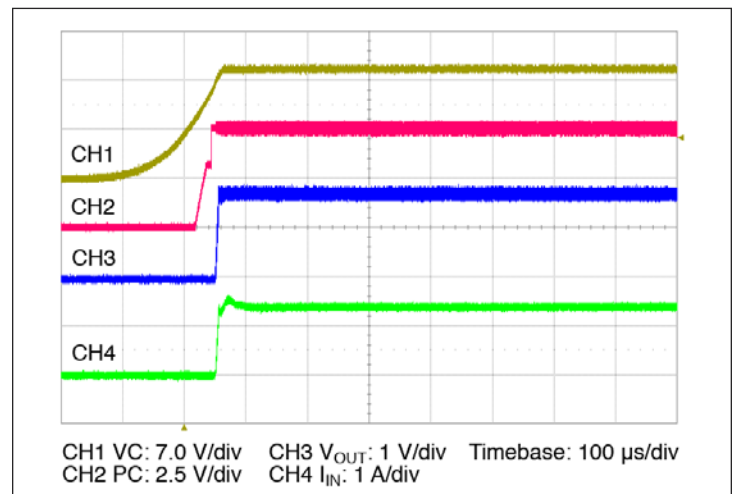

Figure 14 — Start up from application of VC;  $V_{IN}$  pre-applied  $C_{OUT} = 0 \mu$ F
- Stand Alone Operation (VC applied after VIN): In this case the module output will begin to rise upon the application of the VC voltage (See Figure 14). The Adaptive Soft Start circuit (See Section 10) may vary the output rate of rise in order to limit the inrush current to its maximum level. When starting into high capacitance, or a short, the output current will be limited for a maximum of 900 µsec. After this period, the adaptive soft start circuit will time out and the module may shut down. No restart will be attempted until VC is re-applied, or PC is toggled. The maximum output capacitance is limited to 1500 µF in this mode of operation to ensure a successful start.